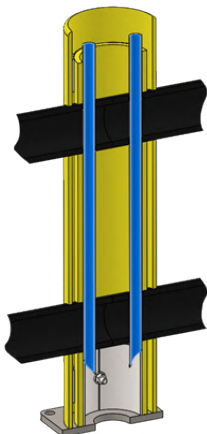

Figure 6. Sections fixing in the intermediate post. Fixing pipes are marked in blue in the figure.
3. Hammer the 20 mm diameter fixing pipes to fix the section in the post (Fig. 6).